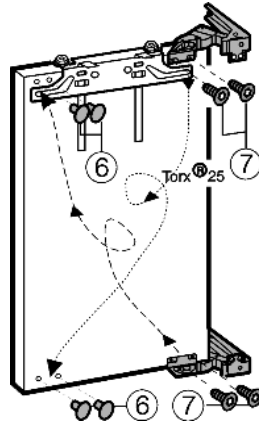

Fig. 5
- ▶ Unscrew *Fig. 5 (7)* the hinges from the door, transfer them diagonally and screw them firmly into place (**with 4 Nm**).
- ▶ Close the vacated fastening holes with the accompanying stoppers *Fig. 5 (6)*.